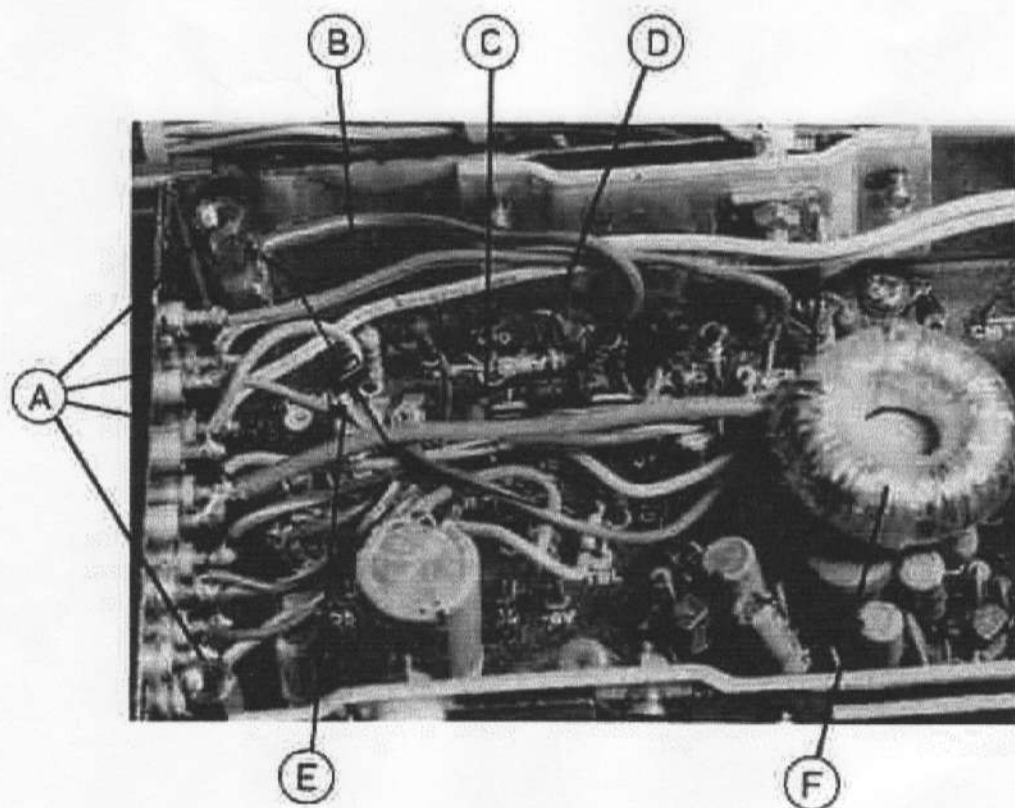
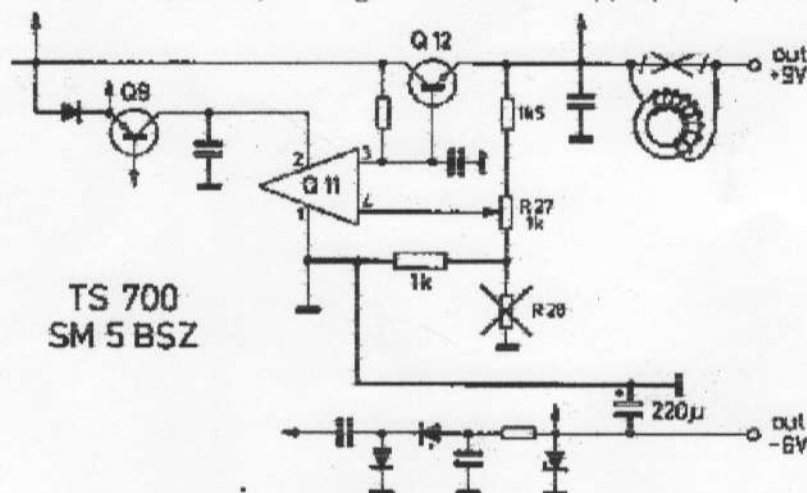

Fig. 2: These are the modifications:
Fig. 3: Part of the circuit diagram where the modifications have to be carried out
6. Solder an electrolytic capacitor of 1000 microfarad or more between fuse F2 (2 A) in the 20 V line and the ground point at the center of the rear panel. Figure 2 shows the modifications 1 to 5, and Figure 3 shows the appropriate part of the circuit.